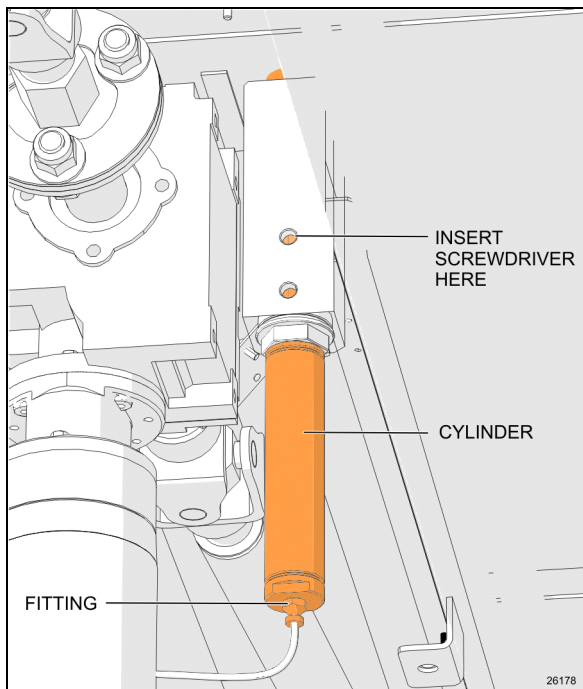

FIGURE 32: SECURITY PIN AIR CYLINDER REMOVAL
The system consists of a stainless steel pin connected to a single action/spring return pneumatic cylinder (Figure 32). The pin engages in the slide-out receptacle with releasing of the parking brake. A knocking sound may be heard at this moment. An O-ring is located at the base of the pin housing to reduce knocking when the pin retracts. The lower hole on the pin housing permits water to drain. The upper hole allows inserting a small screwdriver to prevent pin rotation on air cylinder removal.
2. Disconnect the fitting from the cylinder base. (Figure 32).